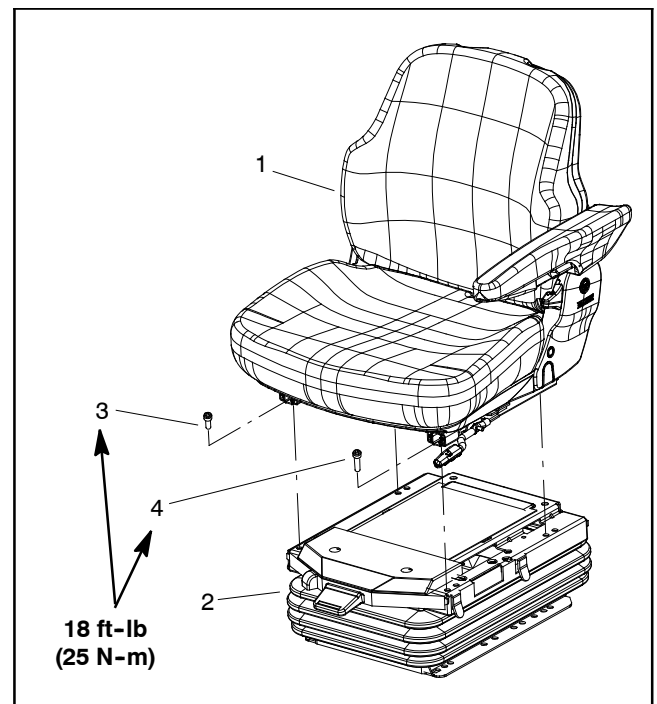

Figure 19
8. Remove four (4) torx head screws that secure seat to seat suspension (Fig. 19). Note that the screw near the seat adjustment handle is longer than the other three (3) screws.
2. Secure seat to seat suspension with four (4) torx head screws (Fig. 19). Make sure that longer screw is positioned near the seat adjustment handle. Torque screws **18 ft-lb (25 N-m)**.